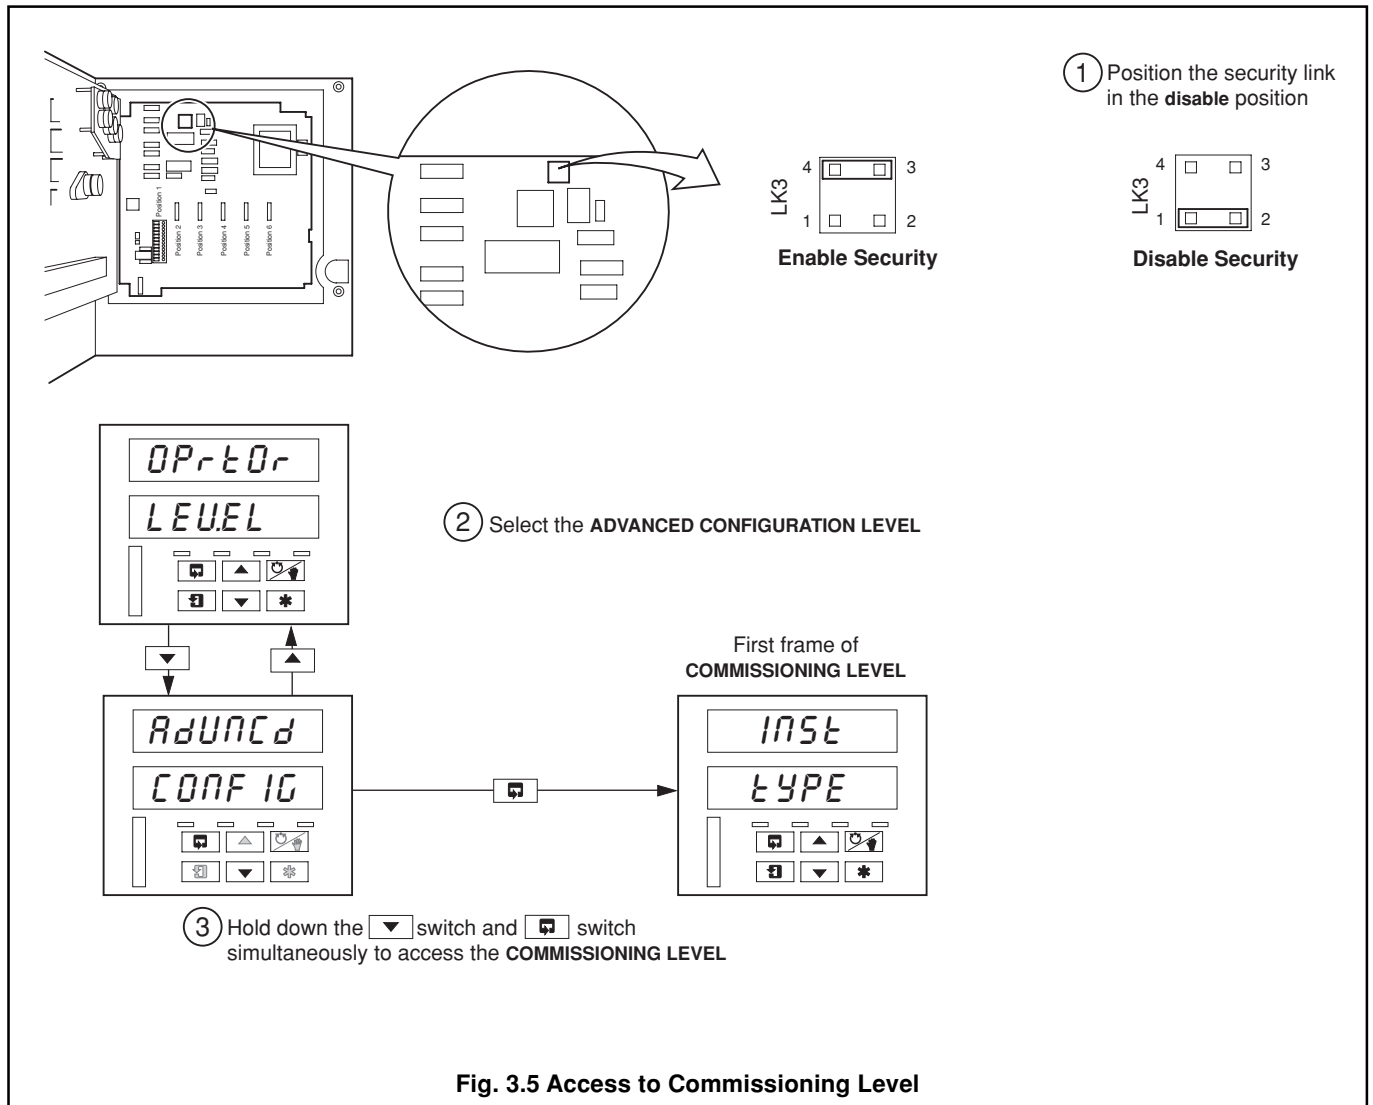

Fig. 3.5 Access to Commissioning Level
3.4 Changing the Software Configuration – Fig. 3.5
- Access the **COMMISSIONING LEVEL** – see Fig. 3.5.